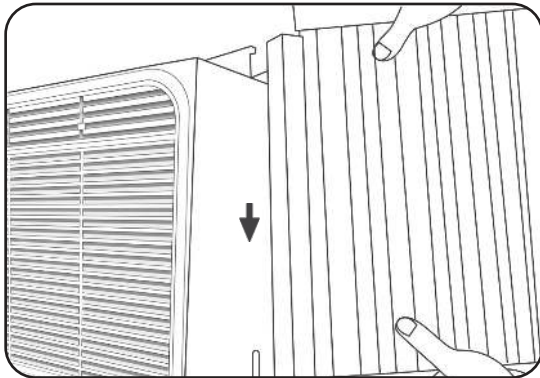

Fig.3
- Slide the free end of the accordion panel down into the side grooves on the air conditioner **(See Fig.3).**